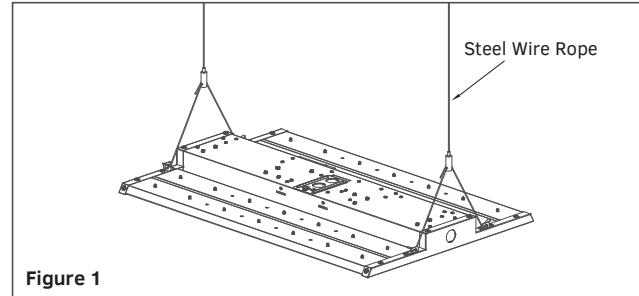

Figure 1
1. Mounting With Steel Wire Rope (Figure 1)